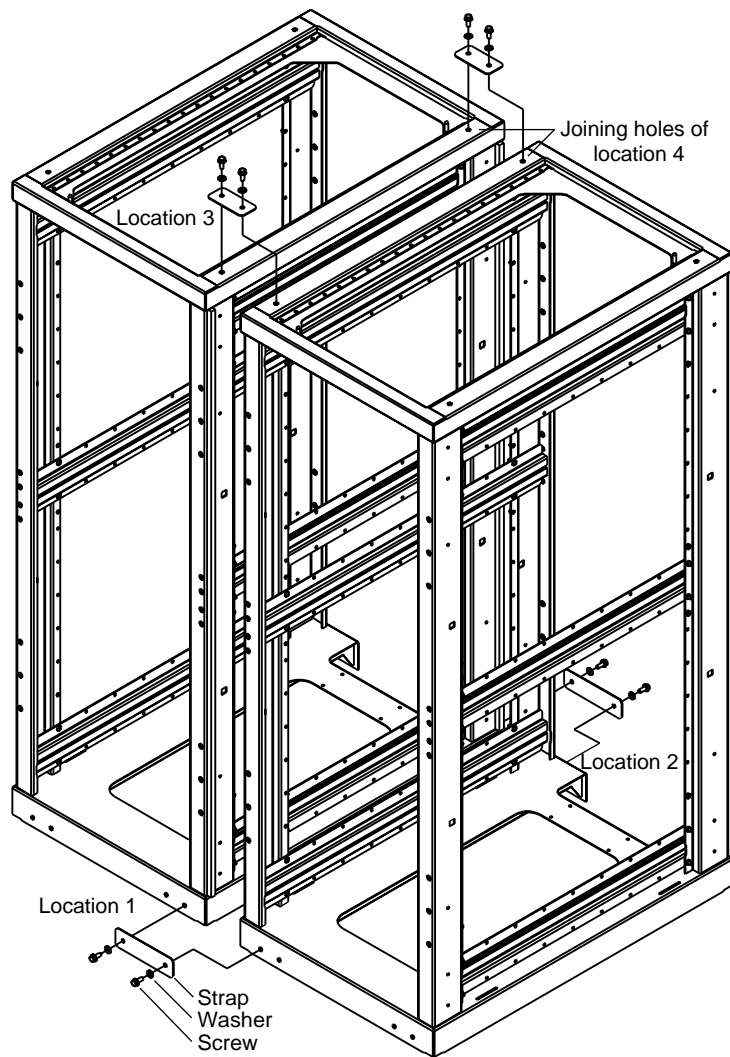

Figure 1-10 Joining Locations
4. Using the leveling bolts of rack 002, adjust rack 002 so that the joining holes of rack 002 align with the joining holes of rack 001. See Figure 1-10.
5. Using the provided straps, screws, and washers, bolt the racks together in the four designated locations shown in Figure 1-10.
7. Ensure that the circuit breakers on the power distribution units are in the OFF (O) position. Then connect the power cords to grounded power outlets. Plugging in the power cords grounds the racks.